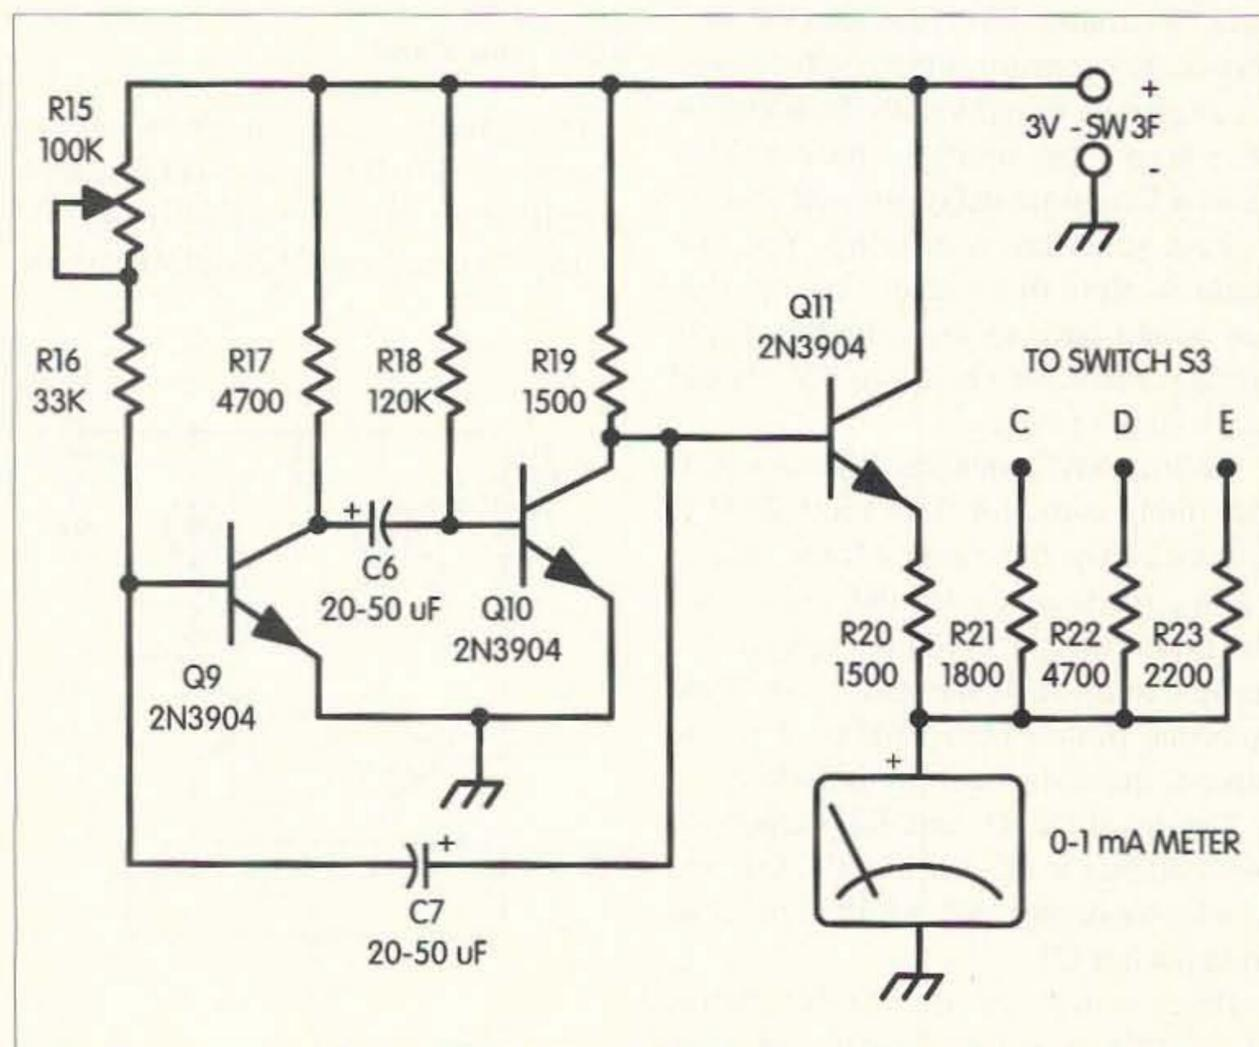

Fig. 6. Meter driver. See Table 1 for R20-R23 values for other meters.
The combination of the RC values for the meter circuit, Fig. 6, will cause it to tick-tock about once every couple of seconds. The values chosen for the noisemaker function, Fig. 5, will produce a sound that ranges from the low end up toward the middle of the piano. Colby's Box has a nominal 4-to-1 (two-octave) range. The same basic circuit—but with different values of R and C—will give a wide range of frequencies out of this simple oscillator. That will allow its use in several different applications.
**Table 1.** Resistor values versus meter sensitivity. See Fig. 6. Under the heading Standard Values are ways to make up the nonstandard resistors. Remember, this is a toy—not a precision instrument. Some of the composite values will work with only two resistors instead of three. Connecting a resistor, the meter, and a battery together will tell you if that is the value to use for the desired effect. Some of the values add up to a small percent less than the specified value. That will let the meter read a bit higher than the nominal 10%, 50%, etc., of full scale.
A quick glance at Fig. 6 will show a familiar sight: a flip-flop with a driver transistor, Q11. It will also show a couple of differences. The load is in the emitter of the driver transistor.
An emitter follower applies most of its input voltage to the load. The driver, Q10, sees a much higher resistance than it would if it were connected directly to the load. In this case, that resistance is about 150 times the combined resistance of the resistor R20, going from the emitter to the meter. For a 0–1 mA meter, the meter and the resistor combination would be roughly 3,000  $\Omega$  without Q11. With Q11, the second transistor in Fig. 6, Q10, sees about 450,000  $\Omega$ . That is much more than ten times the value of resistor R19, in series with the collector of the second transistor. That gives Q10 a good degree of isolation from the load.
The first two transistors in Fig. 6 make a flip-flop that runs at a rather slow rate. It runs roughly from once a second to once every three to four seconds. The third transistor isolates the meter from the flip-flop. Normally, you might connect the meter to the collector of one of the first two transistors. If you did that here, you would lose the simplicity of the wiring for the step movement function. By using the follower for isolation, you can use a single, simple, rotary tap switch to get a wide variety of entertaining functions.